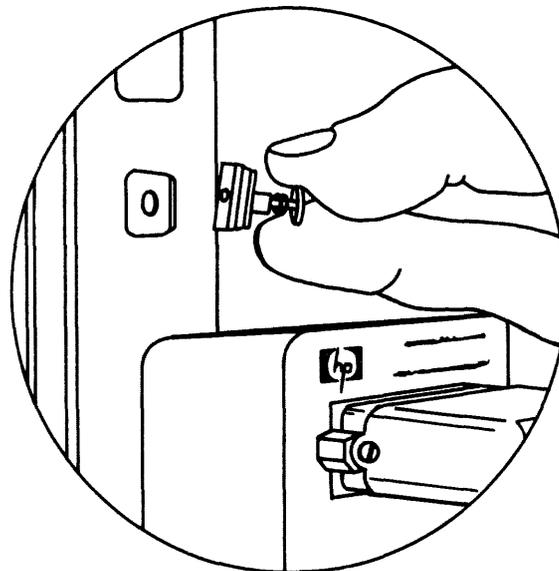

Figure 2-11 Securing the Connector Panel
- d) Secure the connector panel in position by tightening the fixing plate to the top lug as shown in Figure 2-11.